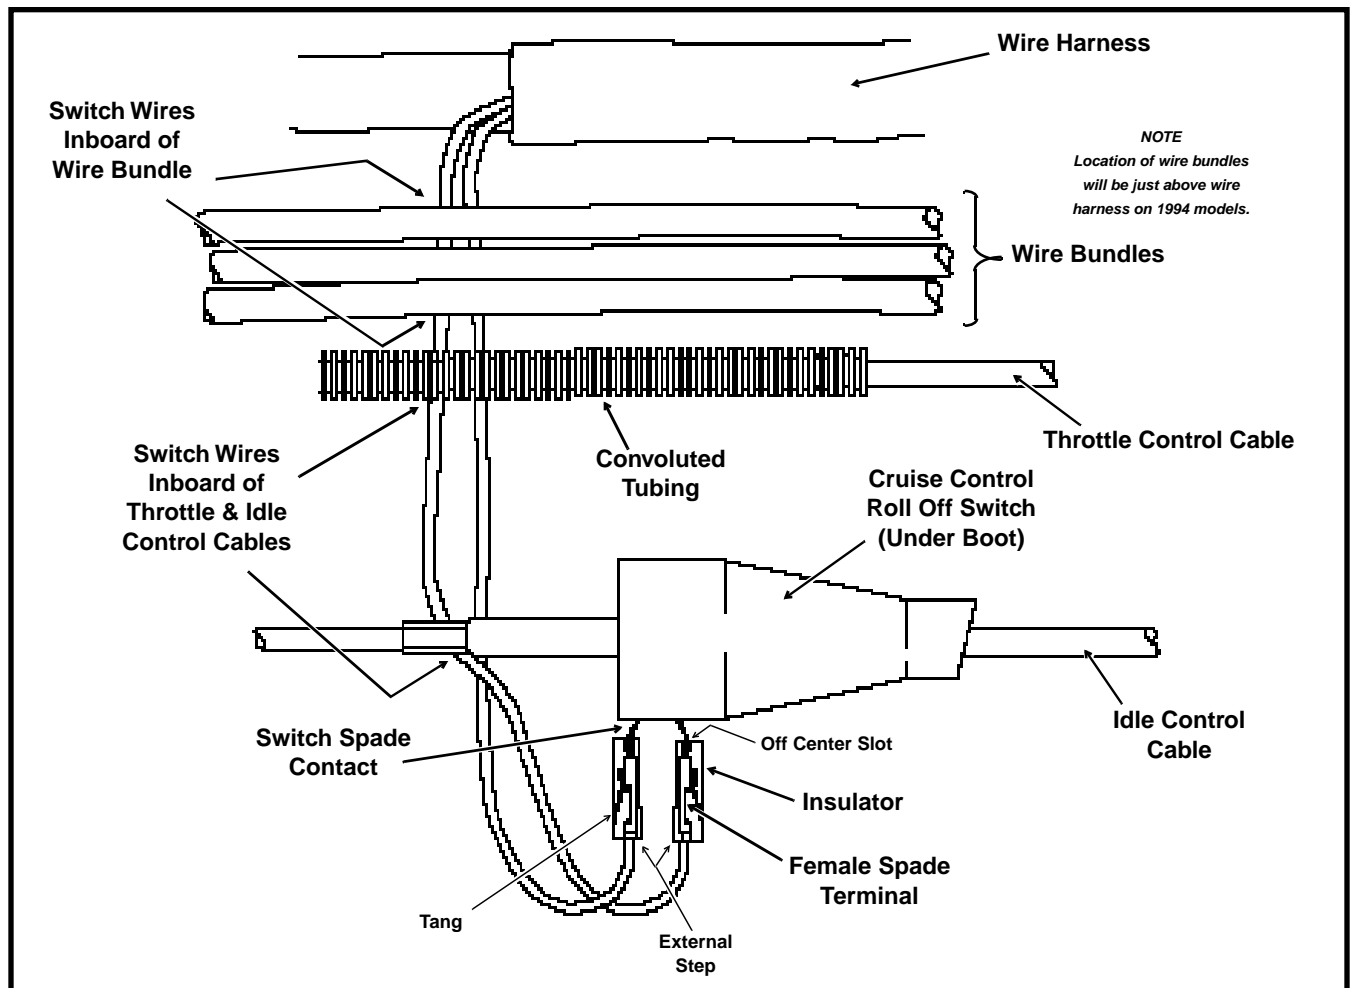

Figure 3. Throttle/Idle Control Cable Configuration (Right Side View) - 1993 Models
1. Locate the cruise control roll off switch plumbed into the idle control cable on the right side of the vehicle (see Figure 3). Push rubber boot on switch forward to access spade type wire terminals.
8. Slide the insulators onto the switch spade contacts (polarity is not a factor). For maximum insertion, be sure that the external step on the insulators face each other (see Figure 3).